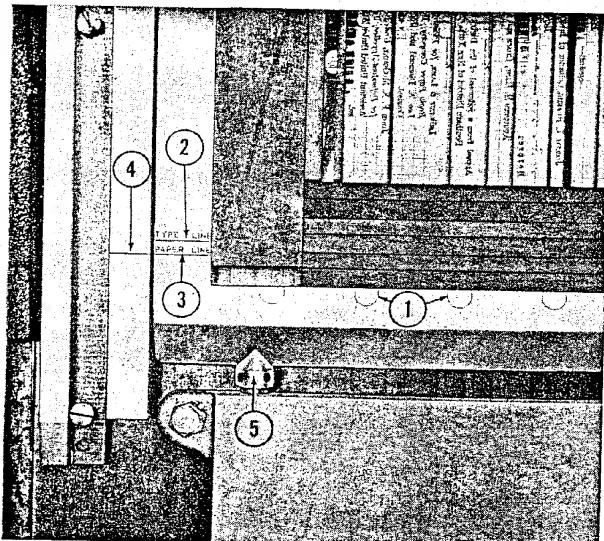

Figure 27—Chase Alignment
**d. CHASE ADJUSTMENTS.** (See figure 27).—Each chase furnished with the press has an inside dimension of  $14\frac{1}{8}'' \times 19\frac{3}{4}''$  which will accommodate a full sized form  $12\frac{1}{4}'' \times 19''$  (two roller coverage). A  $13\frac{1}{4}'' \times 19''$  maximum form (one roller coverage) can be locked up by using quoins on the gripper edge. Circles (1), stamped on the gripper edge of the chase, indicate exact position of cylinder grippers. These circles are provided to aid the operator in properly positioning the form to secure the best gripper handling.
(d) Be sure the "PAPER LINE" (3) registers with alignment marking (4) on bed bearer as shown in figure 27. If necessary, raise or lower chase, as required, by turning chase adjusting screws.